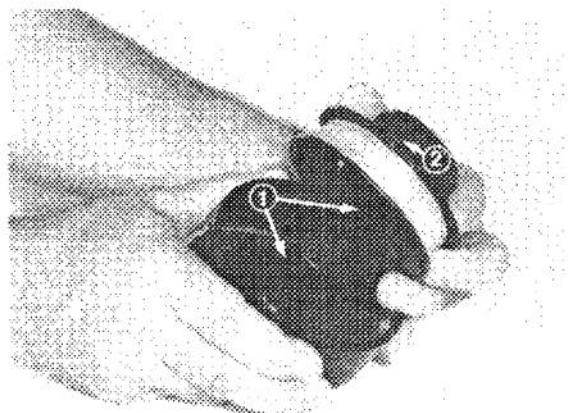

Figure 42
4. Thread line through spool eyelet, align projections on drum core with slots in spool, place spool over core and push in place until assemblies click together (Fig. 42).